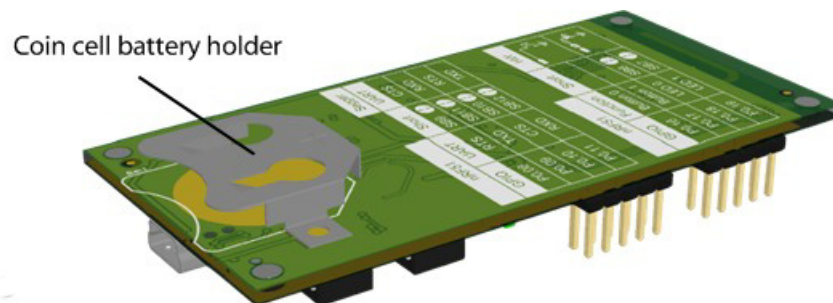

Figure 7 Coin cell battery supply
- CR2032 coin cell battery (see *Figure 7*)